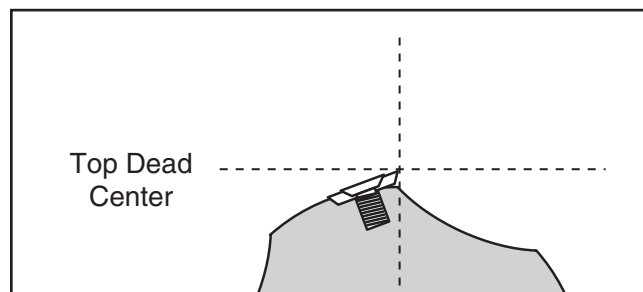

Figure 21. Cutterhead insert at top-dead-center.
18. Place a straightedge on the outfeed table so it extends over the cutterhead, and rotate the cutterhead pulley until one of the carbide inserts is at top-dead-center (TDC), as shown in **Figures 21 & 22**.